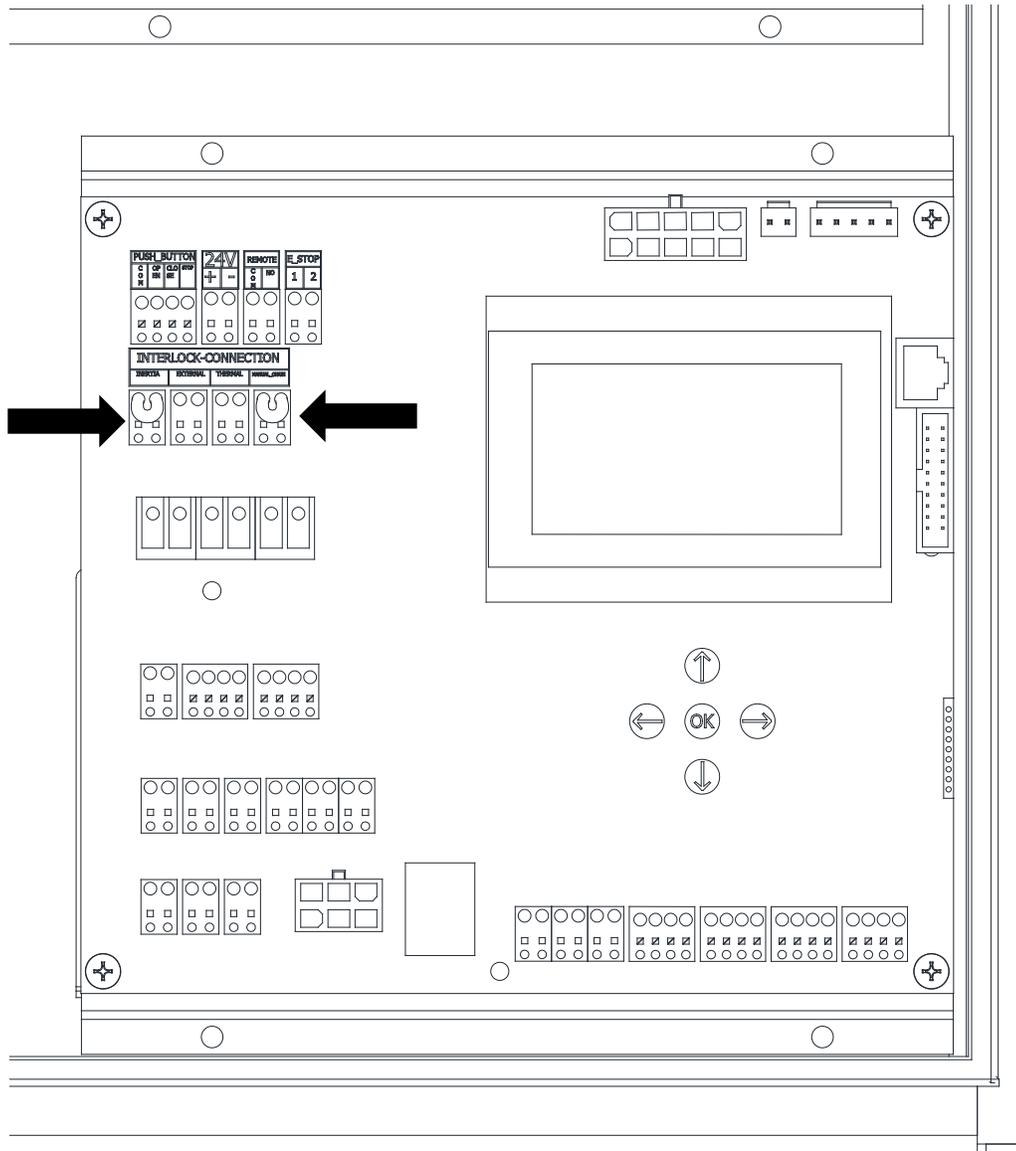

Figure 6
7. Remove the jumper wires in the Interlock section from the “INERTIA” and “MANUAL\_CHAIN” terminals connections as shown in **Figure 6**. This is the WHITE TERMINAL and the GRAY TERMINAL respectively. Plug the **WHITE WIRE** from the Auto-lock Module into the **RIGHT POLE** of the **WHITE TERMINAL** labeled “INERTIA”. Plug the **BLACK WIRE** from the Auto-lock Module into the **RIGHT POLE** of the **GRAY TERMINAL** labeled “MANUAL\_CHAIN”. Plug the 5 wire cable from the Auto-lock Module into the APEX control board as shown in **Figure 7**.